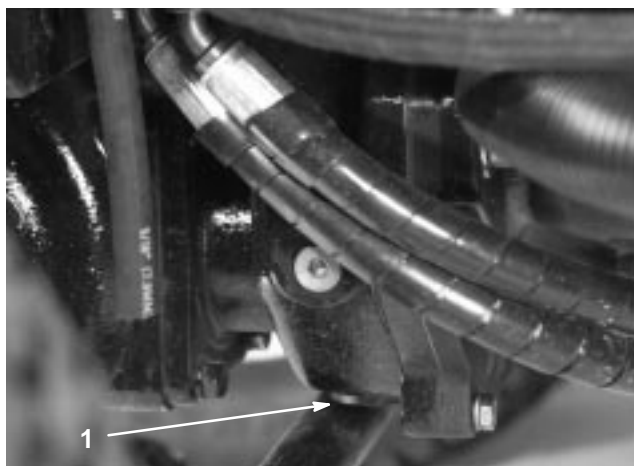

Figure 73
5. Clean the area around the drain plug on the bottom of the gear box (Fig. 73).